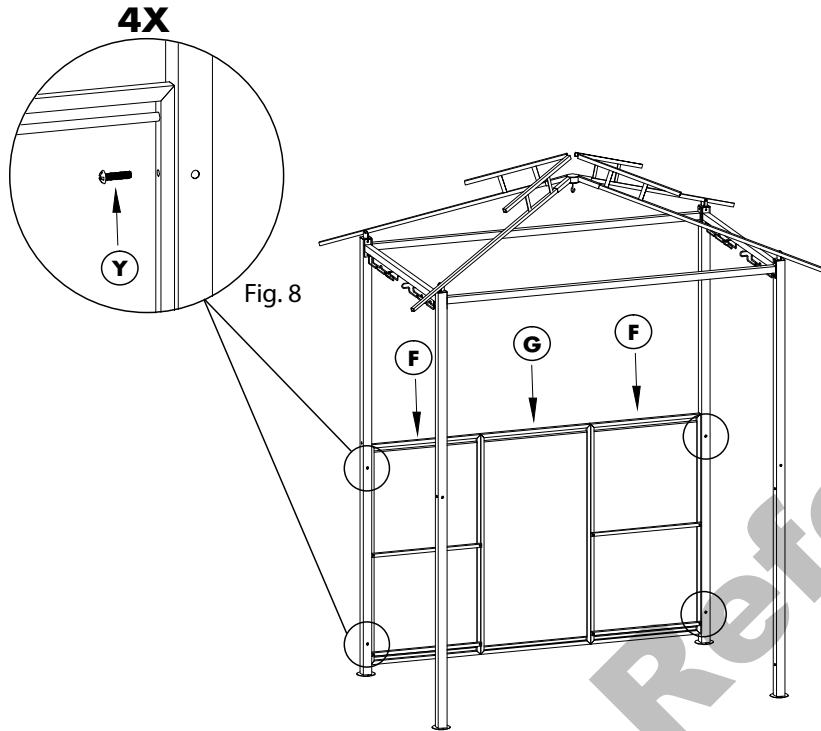

Fig. 8
Insert two M6x28 Bolts (Y) through eyelets on opposite side of Panel (F), and into Pole (A), see Fig. 8. Follow this step to connect opposite end of second F to adjacent A.